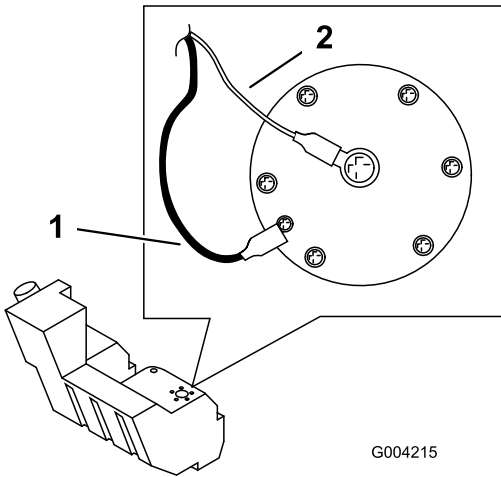

Figure 59
12. Disconnect the two wires leading to the right side of the tank (Figure 59).
19. On the right side of the tank, connect the orange wire to the center post and the black wire to the outside post (Figure 59).